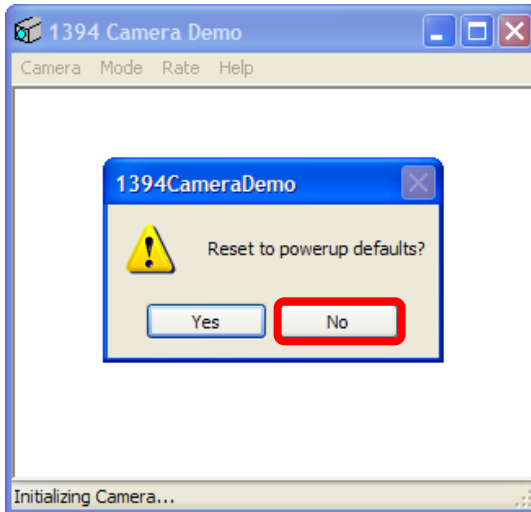

Figure 3.6 Don't Reset to Defaults
- f. Press No when asked to reset to powerup defaults (**Figure 3.6**).